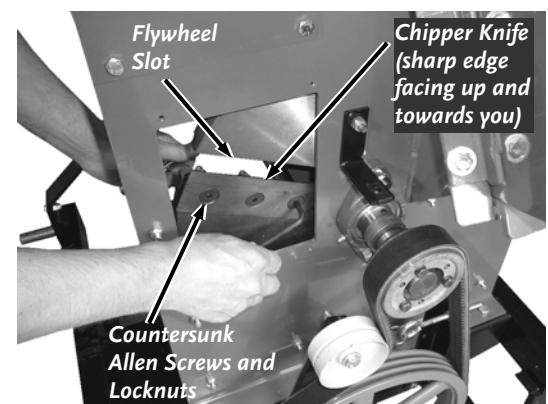

Figure 39
5. Insert a 7/32" Allen Wrench into the head of a screw (**Figure 39**).